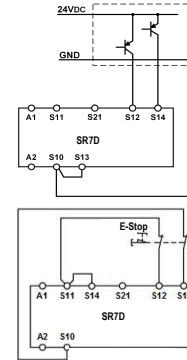

Fig. 5: Two channel emergency stop with PNP outputs / OSSD outputs with its own short circuit monitoring. (Category 4, up to PL e / SIL 3)
- For applications according to Fig. 4 and Fig. 5 it must be ensured that the reference potential of the signal generator and the SR7D is the same.